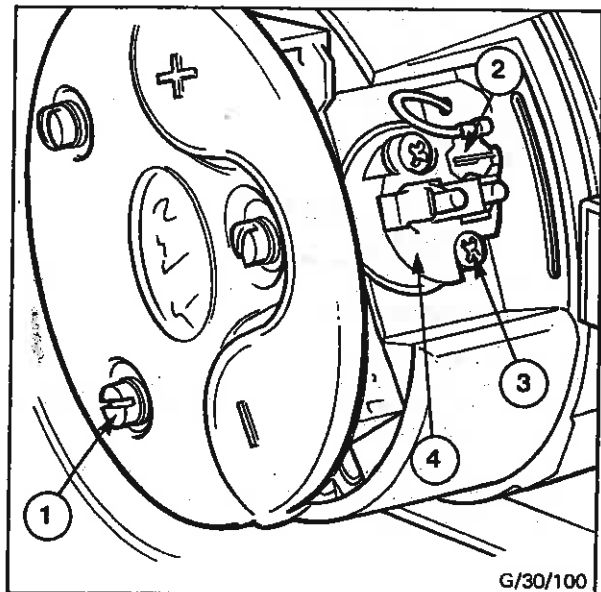

Fig. 61 - Removing Baffle and Brush Box
3. Unscrew and remove the three screws (1) and spring washers and detach the baffle or cowl from the slip ring end shield - see Fig. 61.